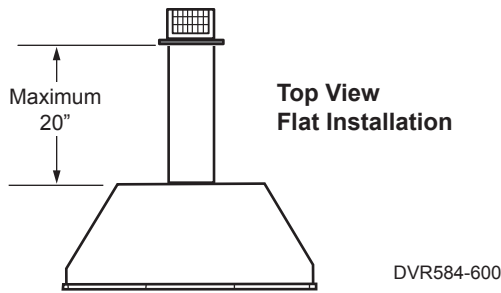

Figure 14 - Rear Vent Application, Maximum Horizontal Distance
- The maximum horizontal distance between the rear of the appliance and the outside of termination is 20" (508 mm). *Figure 14*